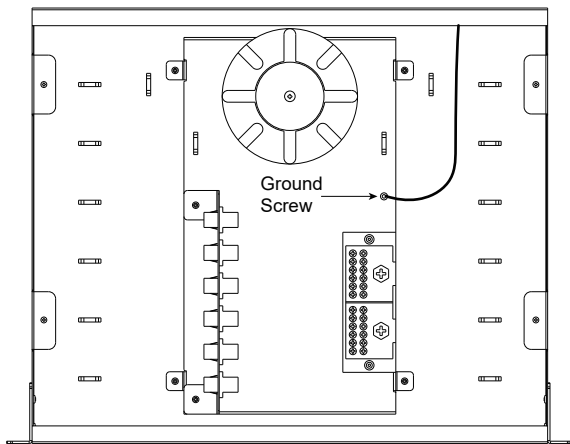

Figure 1
- Attach a 12 AWG (or larger) ground wire to the terminal block using the green ground screw (Figure 1). Connect the other end to Earth ground.
- Secure the ground wire to the cable clamp using a supplied cable tie (Figure 1).